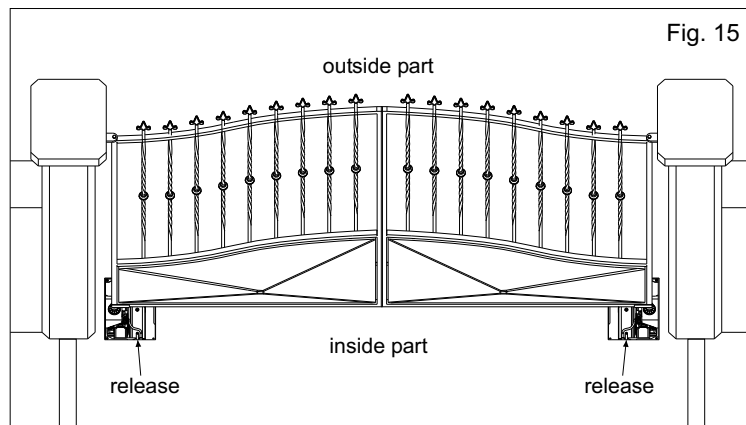

Fig. 15
**4.2.** It is important to identify the right operator and the left operator, in any case the release system must be always placed inside the place of residence. Make reference to Fig. 15.